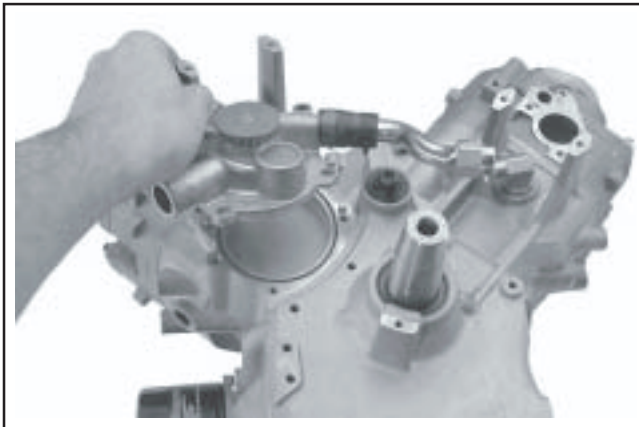

Figure 9-49. Removing the Water Pump Assembly from Block.
3. Lift the water pump up, and carefully work the ferruled end of the transfer tube out of the fitting. Remove the water pump with the transfer tube and the hose section attached. Remove and discard the O-Ring from within the channel of the pump housing. See Figure 9-49.